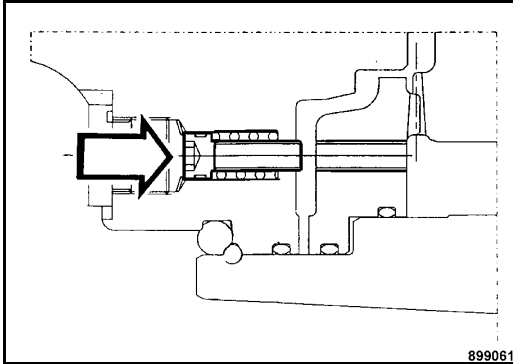

Fig. 107
- Completely release both screws (Fig. 107) to close the brake.